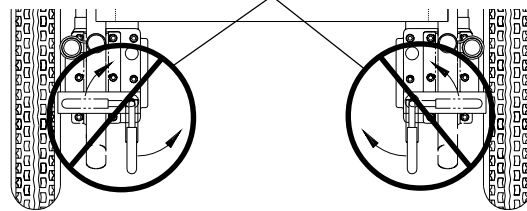

FIGURE 7 - ENGAGING/DISENGAGING CLUTCHES USING/INSTALLING/ADJUSTING WHEEL LOCKS*
2. Locate the clutch handles on motors (**FIGURE 7**).
3. Perform one of the following (**FIGURE 7**):